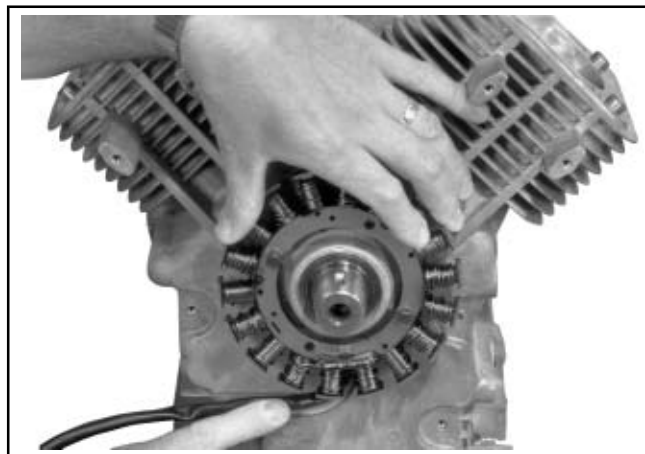

Figure 11-21. Route Stator Leads in Groove.
4. Route the stator leads in the crankcase channel, then install the backing plates and stator wire bracket (if used). Secure with the four hex. flange screws. See Figures 11-21 and 11-22. Torque the screws to 7.3 N·m (65 in. lb.).
2. Install the flywheel onto the crankshaft being careful not to shift the woodruff key. See Figure 11-21.